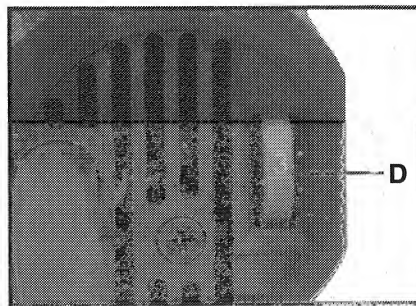

Fig. 3
**SPEED RANGE** – Your Variable Speed Saw is equipped with a “SPEED CHANGE KNOB” (D) Fig. 3. The knob is numbered “1” through “6” with “1” producing the slowest speed (approximately 400 SPM) and “6” producing the fastest speed (approximately 2600 SPM). The knob (and tool speed) is infinitely adjustable between “1” and “6”. The knob (speed) may be adjusted with or without the motor running.